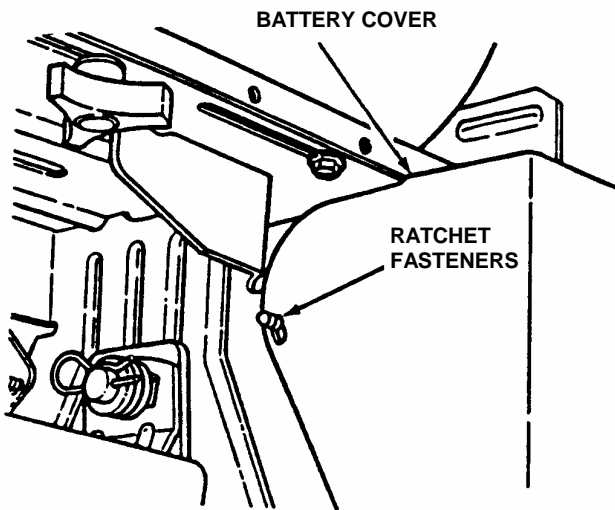

FIGURE 4.15
1. Carefully pull each side of battery cover away from ratchet fasteners and remove cover. See Figure 4.15.
5. Reinstall battery cover. See Figure 4.15.
12. Reinstall battery cover. See Figure 4.15.